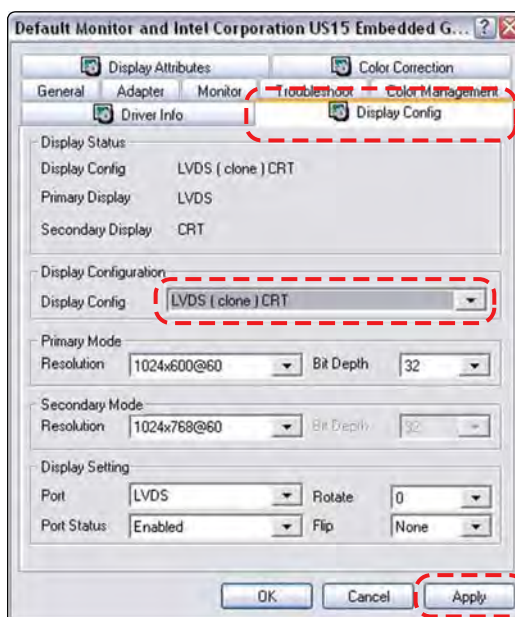

Figure 17-4 Sample Display Config tab
4. From the Display Config tab, select LVDS (clone) CRT from the Display Configuration dropdown menu (Figure 17-4).